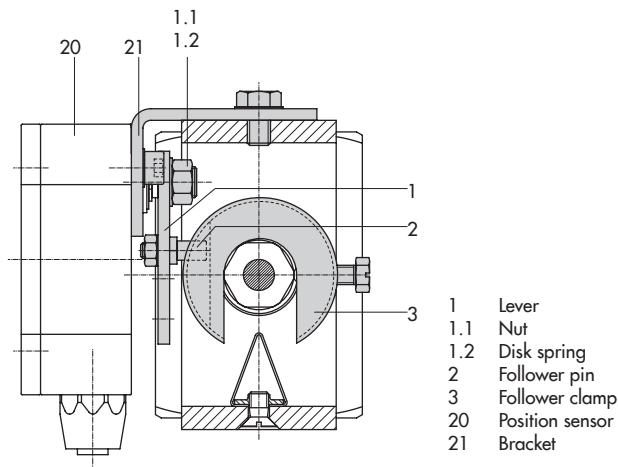

Fig. 28: Mounting on a micro-flow valve
- Refer to Fig. 28
1. Place the lever (1) on the position sensor in **mid-position** and **hold it in place**. Unscrew the nut (1.1) and remove the standard attached M lever (1) together with the disk spring (1.2) from the sensor shaft.
2. Screw the position sensor (20) onto the bracket (21).
3. Select the S lever (1) from the accessories and screw the follower pin (2) into the hole for pin position **17**. Place the lever (1) and disk spring (1.2) on the sensor shaft. Place the lever in mid-position and hold it in place. Screw on the nut (1.1).
4. Place follower clamp (3) on the valve stem connector, align at a right angle and screw tight.
5. Position the bracket (21) with the position sensor on the valve yoke and screw tight, making sure the follower pin (2) slides into the groove of the follower clamp (3).